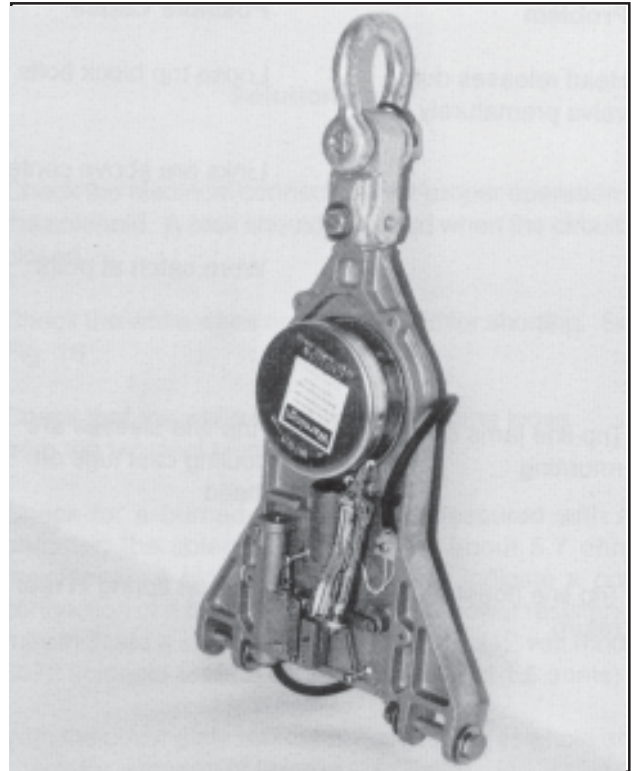

Fig. 23: Securing the spring reel.
- 2) Secure the spring reel to prevent the reel from unwinding. This can be done by clamping a small pair of vice-grips onto the bottom flange of the reel, locking the reel against the solenoid. See Fig. 23.